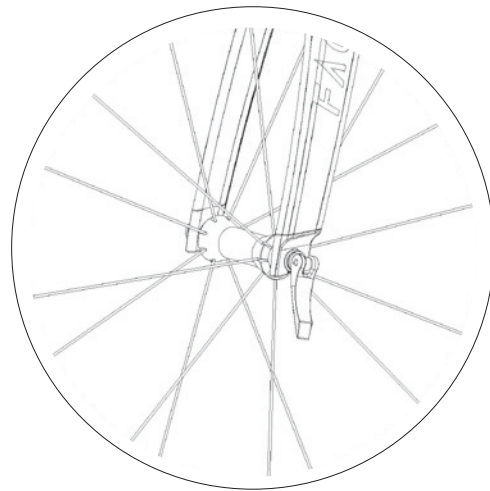

Figure 8: Wheel quick-release: 'OPEN' position
- Move the quick-release lever to the 'OPEN' position (Fig. 8).
- Move the wheel quick-release lever to the 'OPEN' position (Fig. 8).
- Move the wheel quick-release lever to the 'OPEN' position (Fig. 8). The lever should be on the side of the wheel opposite the derailleur and sprockets.